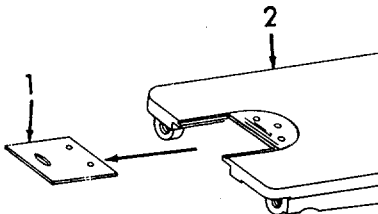

Figure 2-29. Slide Plate, Removal.
g. Installing the Bobbin Case and Bobbin (Refer to Figures 2-29 and 2-30).
2. Machine Bed</p> | <p>(1) Using your hand, turn the machine pulley toward you until the needle bar travels to its highest point.</p> <p>(2) Refer to Figure 2-29. Tilt head back and remove the slide plate (1) from the machine bed (2).</p> |
- (5) Release the latch (2), and press the bobbin case (1) into the hook until the latch snaps into the groove near the end of the stud. Be sure the position finger (5) on the bobbin case (1) is in the notch (6) at the top of the hook. About 3-inches (8 cm) of thread should be left hanging down from the bobbin case.
- (6) Refer to Figure 2-29. Install the slide plate (1) and tilt the machine head forward.